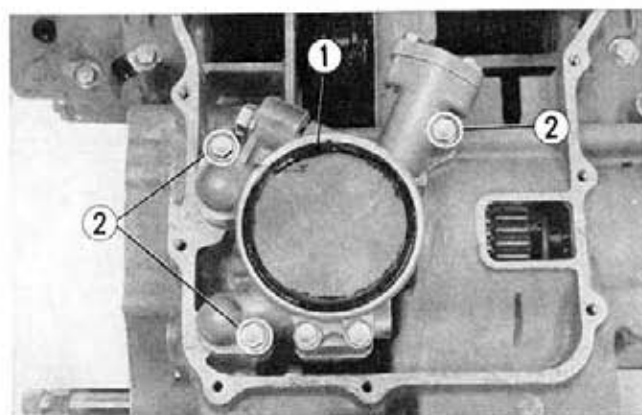

Fig. 3-10 ① Oil pump
3. Unscrew the three oil pump mounting bolts and remove the oil pump. (Fig. 3-10)